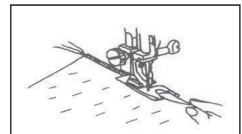

Fig 3
- Hold the threads to the back of the foot keeping them taught as you make the first few stitches of the hem. The fabric will feed through the scroll and will roll close to the raw edge of the fabric. (Fig. 3)